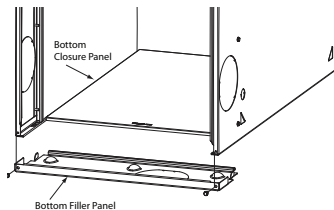

Fig. 8 – Removing Bottom Closure Panel
1. Tilt or raise furnace and remove 2 screws holding bottom filler panel, see Fig. 8.
1. Tilt or raise furnace and remove two screws holding bottom filler panel, see Fig. 8.